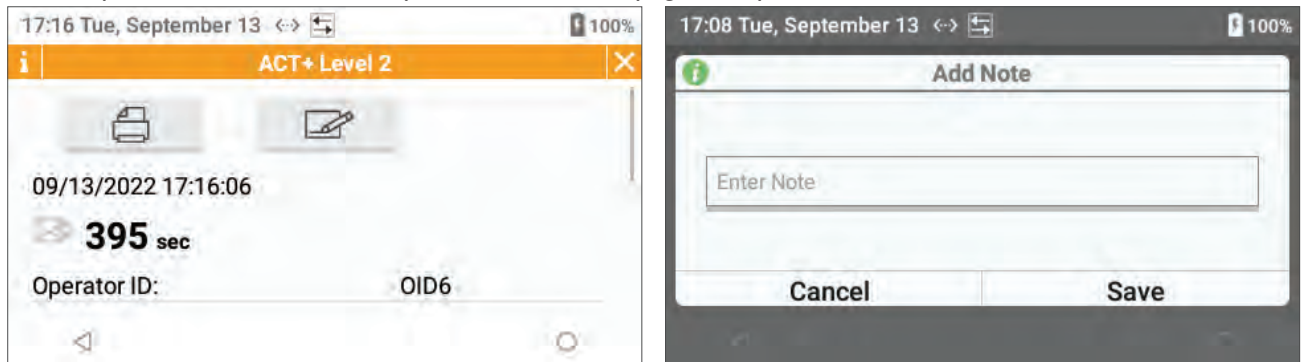

Figure 72: Add User Note
- **Add a user note** – Select **Result Details** (Result Details) and then select  (User Note). Enter the note (30 characters maximum) and select **Save** (Figure 72).